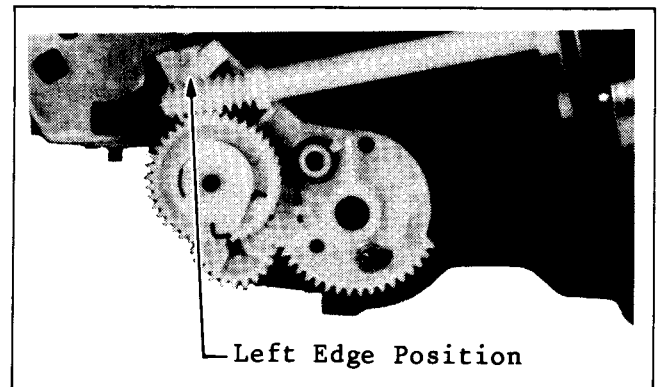

Fig. M34 Cassette Up Condition
- (b). Then remove the worm wheel stopper. Confirm that the wiper gear arm Unit (R) is on the full left side of its arc and cassette holder is in full up condition as shown in Fig. M34.